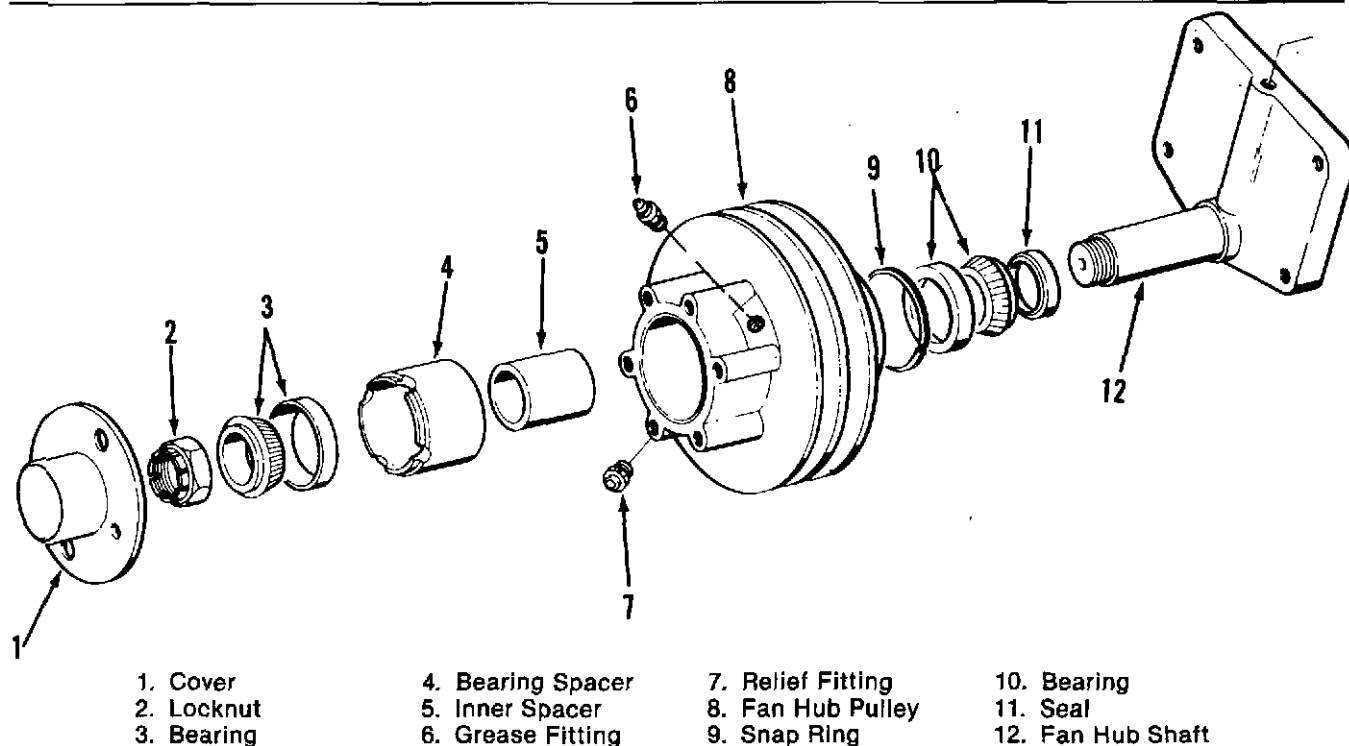

Fig. 8-54. Fan Hub Assembly With Bearing Spacer.
1. Remove the grease fitting (6, Fig. 8-54) and relief fitting (7) from the fan hub (8).
2. Remove the fan spacer (1) and locknut (2).
3. Remove the fan hub from the shaft (12).
4. Remove the front bearing (3) and spacers (4 and 5).
5. Remove the grease seal (11) and the rear bearing (10).
6. To remove the outer races for the bearings (3 and 10), hold a flat punch against the back side of the race. Hit the punch with a hammer until the race is loosened from the bore. Remove the races. Remove the retaining ring (9) from the bore.
1. Install the new retaining ring (9, Fig. 8-54) into the groove in the fan hub bore.
2. Install the outer race of the bearing (10) into the fan bracket end of the fan hub. Push the race into the bore until the race is against the retaining ring.